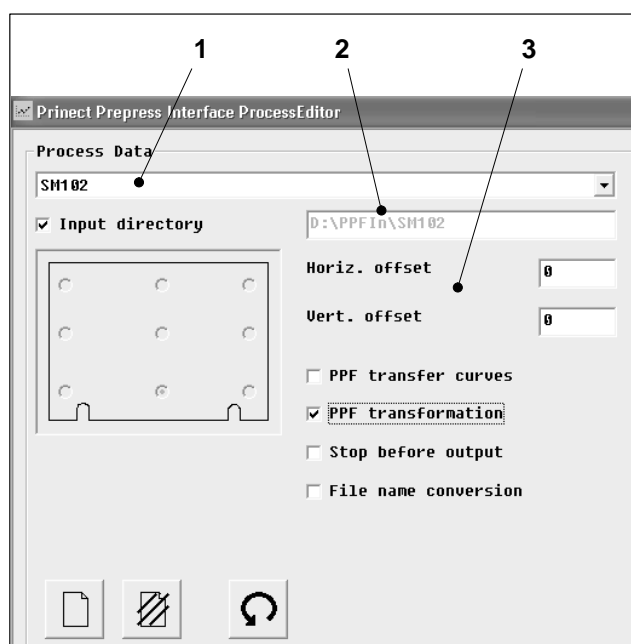

Fig. 13 The *Process data* section
The name of the new process is displayed in the list box (Fig. 13/1) of the *Process data* section.
The name of the input directory is **automatically created by the program** and then displayed (Fig. 13/2). The name refers to the process name you assigned. All blanks and special characters are removed from the process name.
1. Specify the horizontal and vertical offset for print image positioning (Fig.13/3). Entries are made in mm. You can also use decimal places (for example "59.5"). The direction of the offset depends on the print image position on the plate.